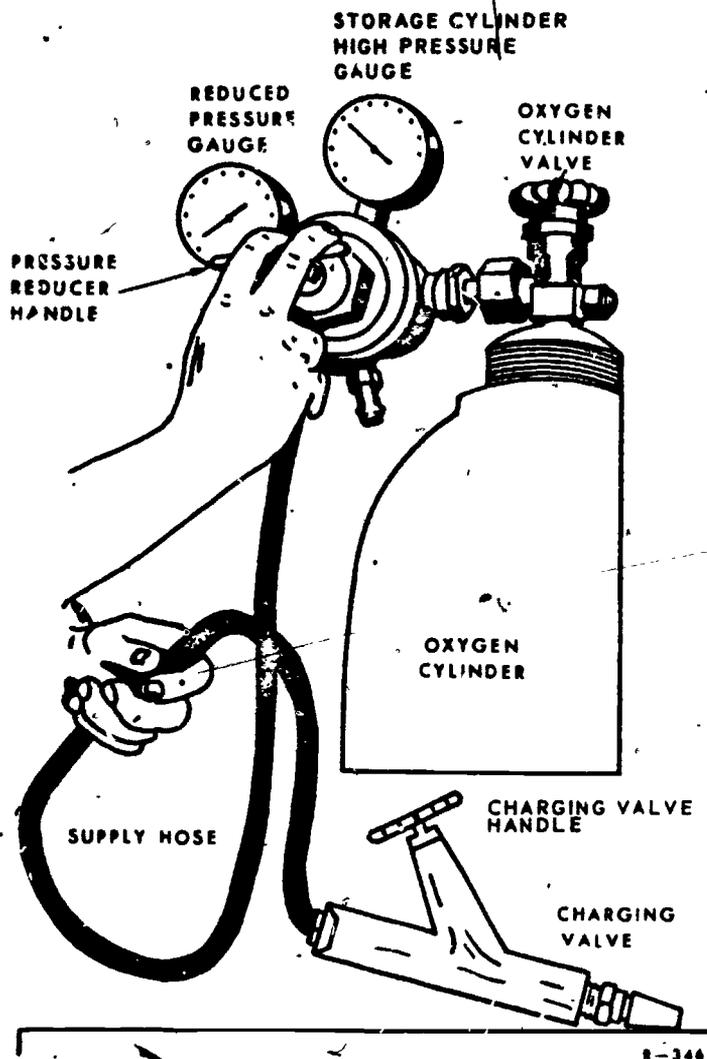

Figure 4. Gaseous Oxygen Servicing Unit.
2. Prepare the Gaseous Oxygen Servicing Unit (see figure 4).
a. Check to be sure that the pressure reducer handle is backed out (turn counterclockwise (CCW) and is free to turn (figure 4)).
b. Slowly open the oxygen cylinder valve and watch the oxygen high pressure gage (figure 4). If you have an oxygen cylinder with a pressure of less than 400 psi, ask your instructor for more instructions before continuing.
c. Slowly turn (clockwise (CW) the pressure reducer handle (figure 4)) until the reduced pressure gage reads 50 psi.
d. Open (CCW) the charging valve handle (figure 4) on the supply hose. Purge the hose for ten (10) seconds. Close (CW) the charging valve. BE SURE TO POINT THE NOZZLE AWAY FROM YOURSELF, OTHERS, AND WALLS.